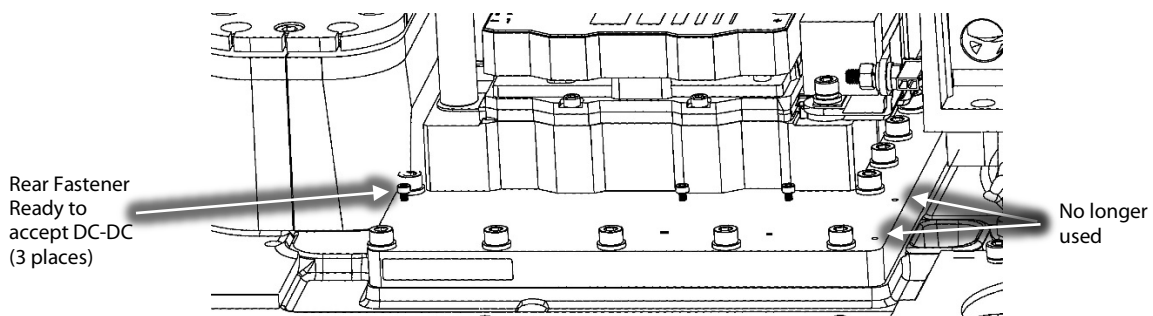

Figure 10 – Rear Fastener Installation
2. Install the new rear fasteners that secure the DC-DC Converter to the Inverter Heat Sink Plate. Do not tighten these fasteners; leave enough space under the fasteners to allow the DC-DC Converter to slide under the fasteners. Refer to Figure 10 (Rear Fastener Installation).